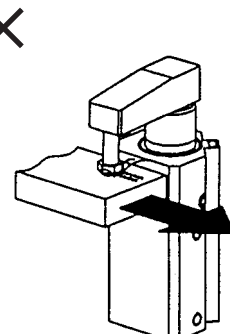

Figure 7
- ⑤ Do not operate the cylinder in such a way that an external force causes the workpiece to move while being clamped (Fig. 7).
- ⑥ Furthermore, do not operate the cylinder in an application in which a rotational force will be applied to the piston rod.
- ① Do not operate the cylinder horizontally. **×**